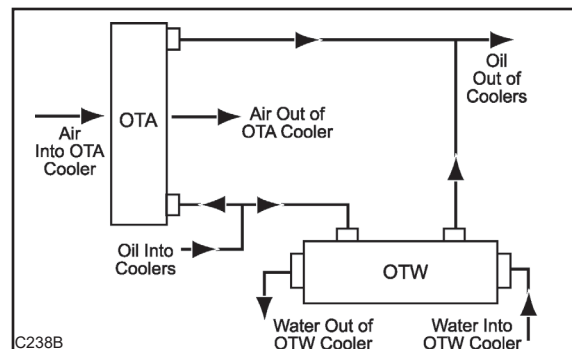

Figure 16: Parallel Cooler Configuration
- Parallel – the transmission oil flows simultaneously through both coolers as shown in Figure 16. The amount of oil flow through each cooler depends upon the relative pressure drop between the two cooler circuits.